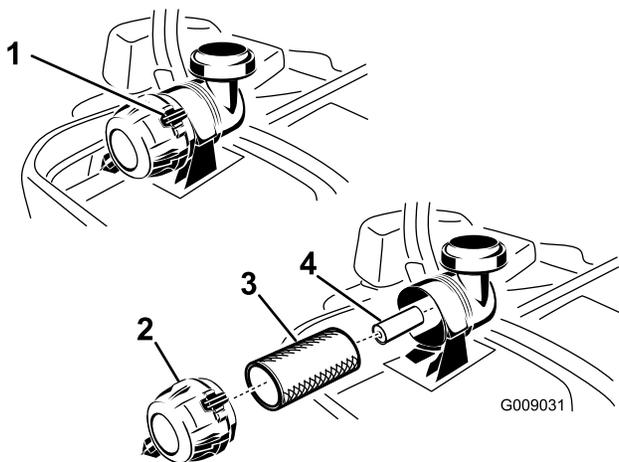

Figure 50
3. Push down to release the retaining clamps on the air cleaner, and pull the air-cleaner cover off the air-cleaner body (Figure 50).
5. Gently slide the primary filter out of the air-cleaner body (Figure 50). Avoid knocking the filter into the side of the body.
1. Do not clean the paper filter, replace it (Figure 50).
2. If the secondary filter is being replaced, carefully slide it into the filter body (Figure 50).
3. Carefully slide the primary filter over the secondary filter (Figure 50).
5. Install the air-cleaner cover with the breather cap down, and rotate so the retaining clamps lock the cover in place (Figure 50).